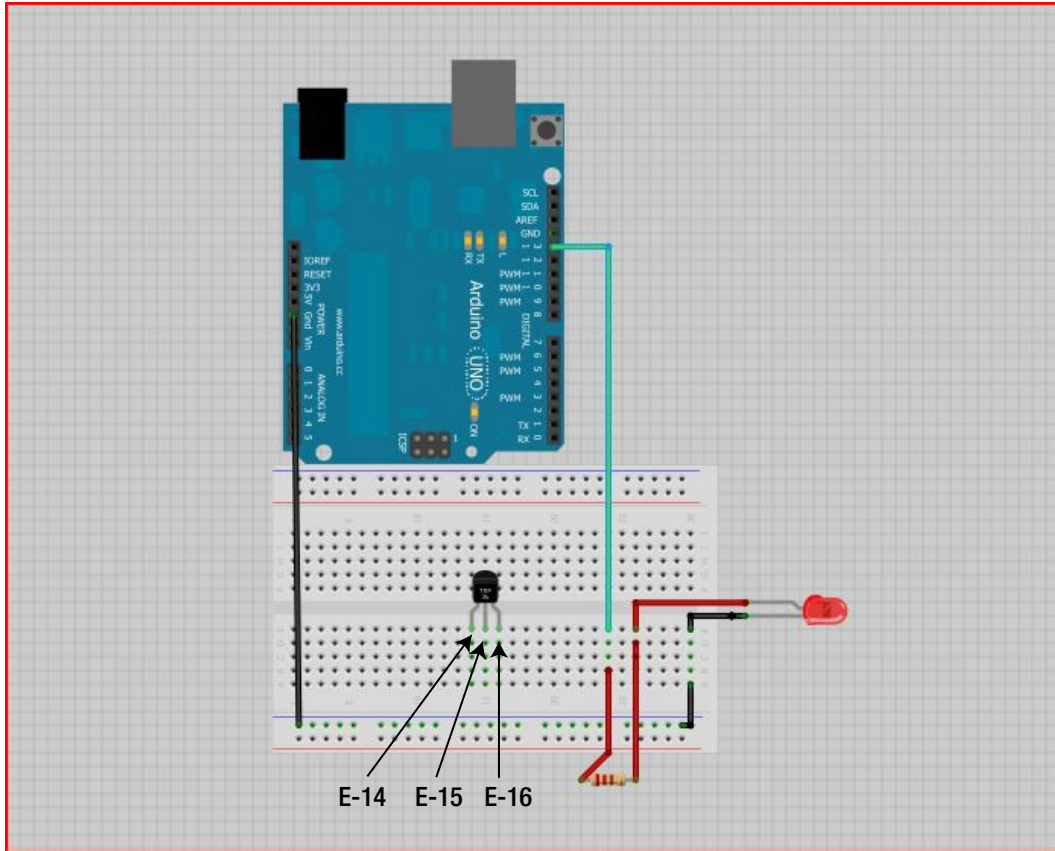

Figure 11-6. Attach the TMP36 to the solderless breadboard
5. Now you're ready for the temperature sensor. Insert the TMP36 sensor into the solderless bread board as shown in Figure 11-6, making sure the flat side is facing away from the Arduino—assuming you have the two boards oriented as we do in the figure.